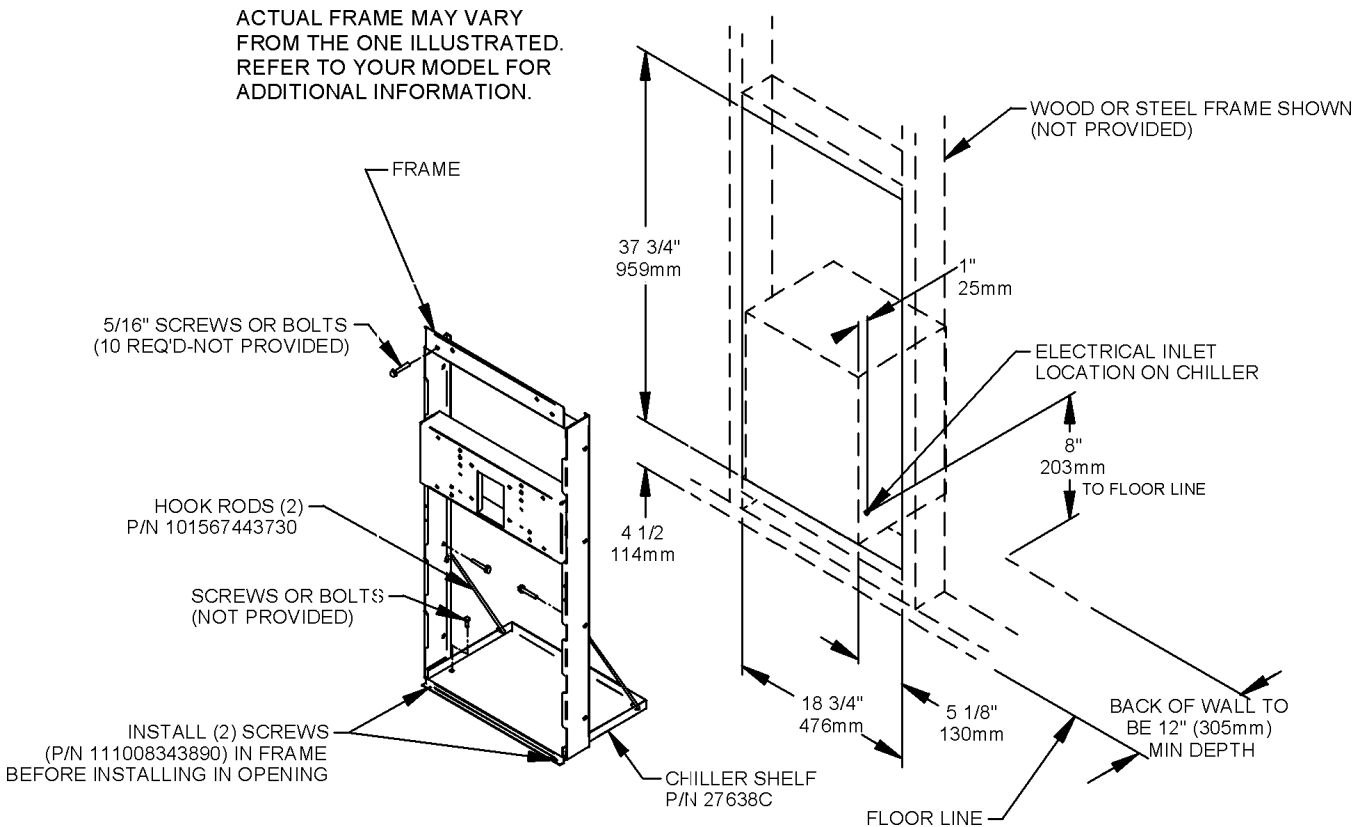

Figure 10 – Rough-In Assembly
1. **Cut a rectangular wall opening** 18-3/4" (475 mm) W x 37-3/4" H (959 mm) and 4-1/2" (114 mm) above the floor line (see Figure 10). The dimensions are required to obtain proper rim and bubbler heights for compliance with ANSI standard A117.1.